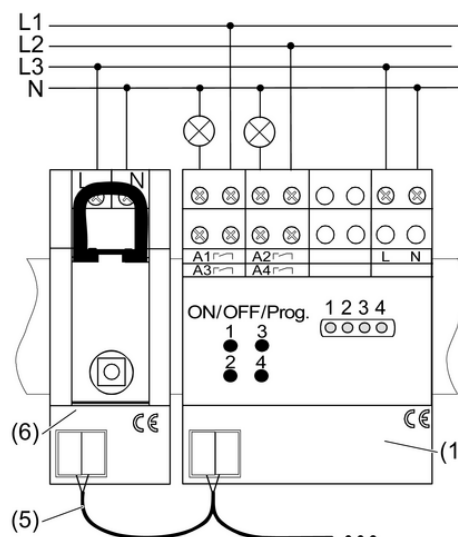

Figure 2
- Mount switch actuator (1) on DIN rail.
- Connect switch actuator according to connection diagram (Figure 2). Outputs A1 to A4 can be connected to various phases.
- Connect switching actuator via a bus cable (5) with the radio receiver RMD (6) and/or additional radio actuators.